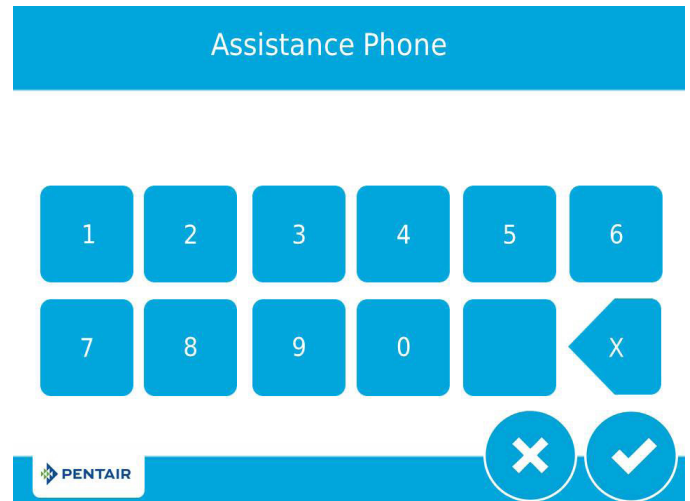

Figure 5 Assistance Phone Screen
3. After pressing , the Assistance Phone screen (Figure 5) is displayed.